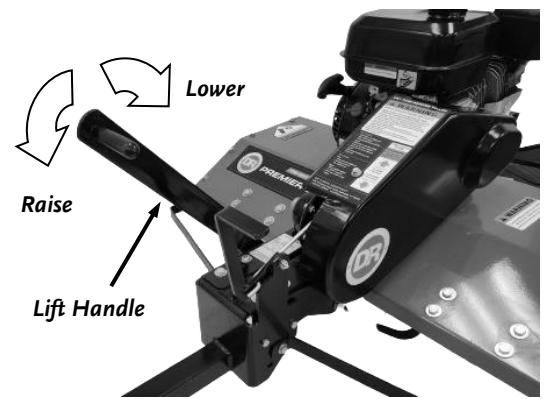

Figure 13
1. Pull the Lift Handle Lever towards the Tow Vehicle to Raise the Tines (**Figure 13**).